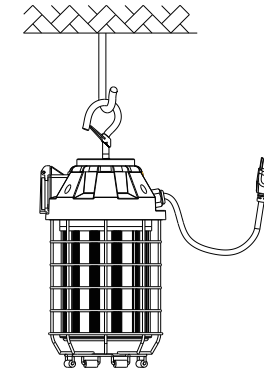

Figure 2
2. Hang lamp with ceiling hook. (Figure 2)